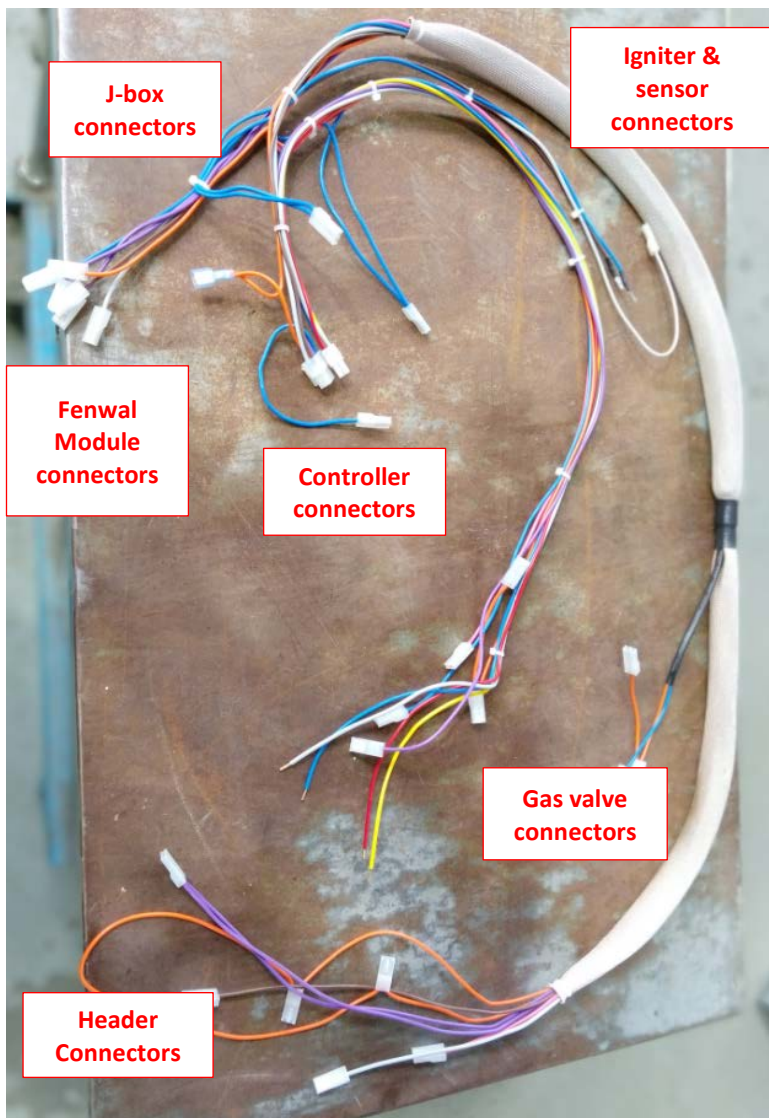
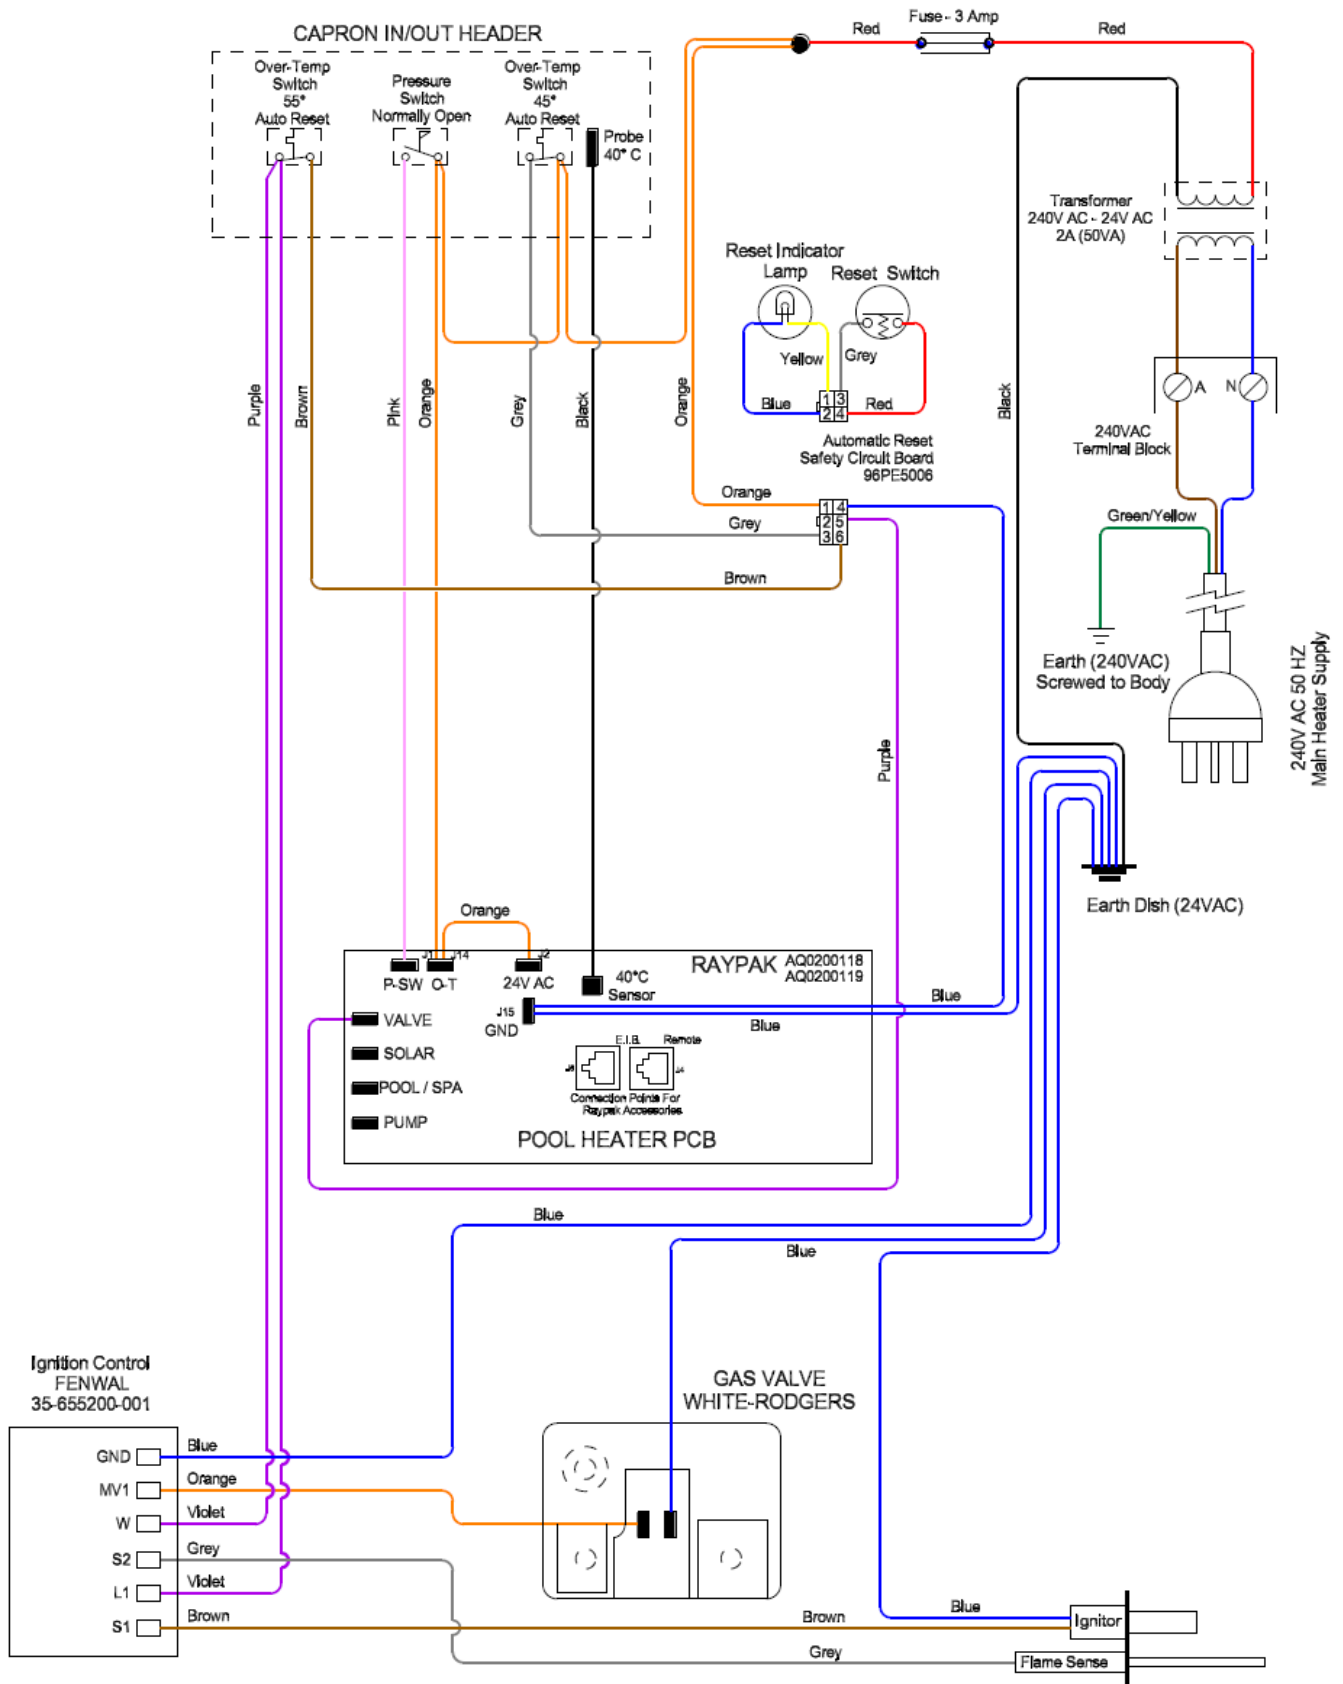

Figure 23
Figure 27
17. Fit the wire loom (Figure 23) provided with this kit by following step 6 to 15 in reverse. Refer Figure 27 on Page 6 (Wiring Diagram).